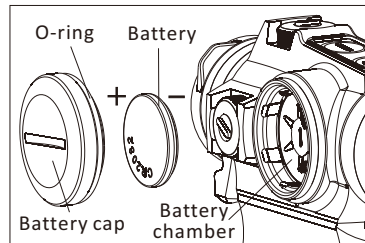

Fig3-2
### Battery Installation(Fig3-2):
- 2) Insert the battery into the battery chamber with the right marked polarities "+" "-", See Fig3-2, Take the waste battery out for replacement.